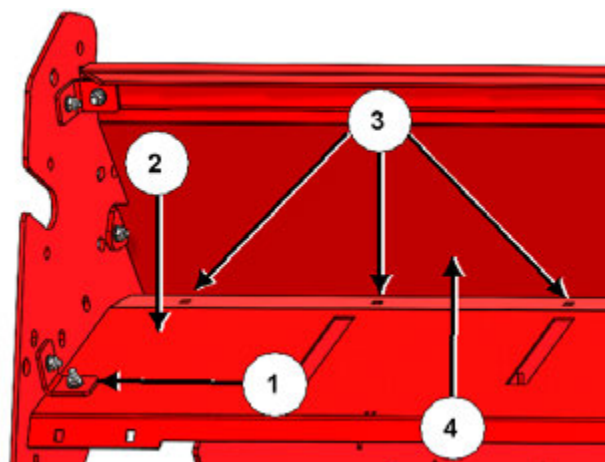

Figure 26: Install guard rod side sheet
6. Install the guard rod side sheet (Item No. 8 in Table 1); see Figure 26.
- a. Pre-install the tub mounts (1) into the front holes on the guard rod side sheet (2) using the provided carriage bolts and flange lock nuts.
- b. Place the guard rod side sheet (2) in place and loosely fasten one tub mount to the tub wall.
- d. Ensure that the holes on the guard rod side sheet (2) line up with the holes (3) on the top flail deflector (4), and tighten the bolts.